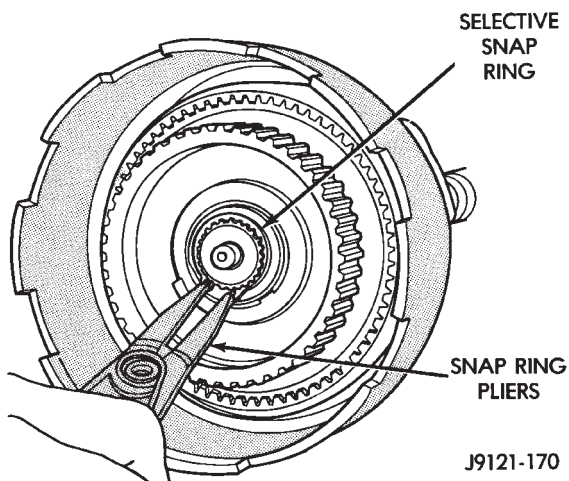

Fig. 180 Installing Planetary Selective Snap Ring
(21) Install planetary selective snap ring with snap ring pliers (Fig. 180). Be sure ring is fully seated.